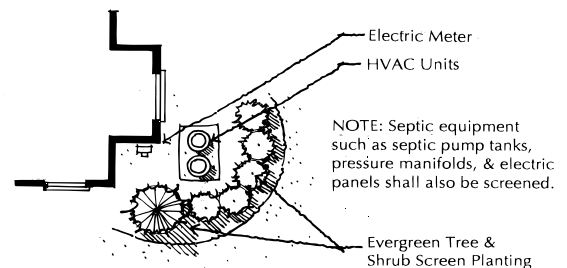

Figure 11.1.1 - Evergreen Screening of Utilities
All heating, ventilating, and air conditioning units, septic equipment, utility meters, electric utility transformer boxes, swimming pool pump equipment, permitted satellite or microwave dishes and similar equipment, apparatus and fixtures on each Lot, including all refuse containers stored outdoors, must be screened from view from streets and from the Waterfront and neighboring Lots. Plants used as screening should be maintained by the Lot Owner so that the equipment, apparatus or fixture being screened is accessible (wherever possible) by service personnel and/or meter readers. Plant materials for this purpose shall be installed using either five (5) or seven (7) gallon sizes, evergreen only. Recommended plant types include Otto Luykens Laurel, Schipka Laurel, Dwarf Burford Holly, Compacta Holly, Variegated Ligustrum, Wax Myrtle, and Fortunes Osthmanthus, although this is not intended as an exclusive listing. (See Figures 11.1.1., 11.1.2., 11.1.3.)